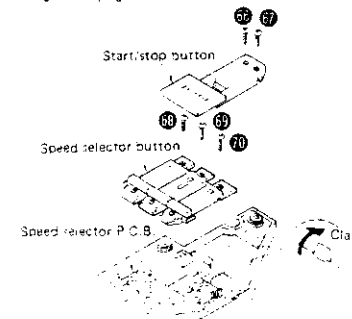

Fig. 16
4. Remove the 2 setscrews (Fig. 16 : ①, ②) of the start/stop button.
5. Remove the 3 setscrews (Fig. 16 : ③ ~ ⑤) of the speed selector button.